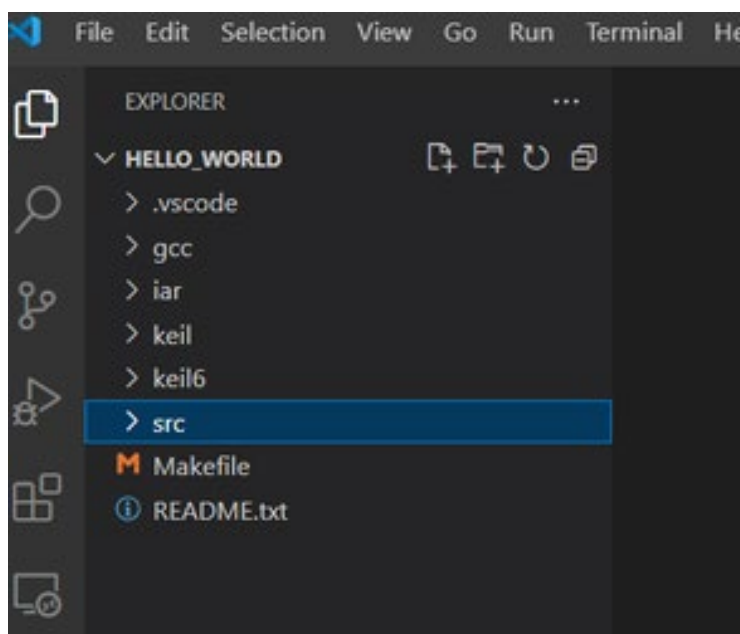

Figure 1- Hello_World Explorer View
1. Open Visual Studio Code, navigate to File -> Open Folder, and open the AmbiqSuite_R3.2.0/boards/<<EVB>>/examples/hello_world folder. The explorer view will look like Figure 1.